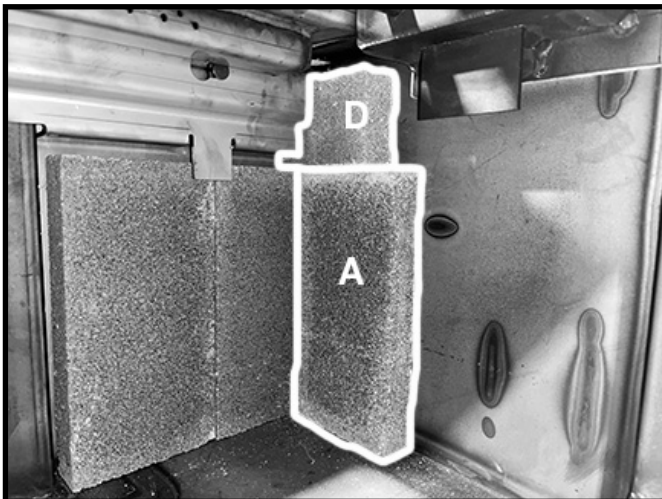

Figure 27: 1st side wall bricks in place.
3. For the side walls: Slide a "D" firebrick up into the back corner of the firebox then, while holding it in place, stand an "A" firebrick against the side wall under the "D" firebrick and up against the rear wall firebrick (Figure 27).